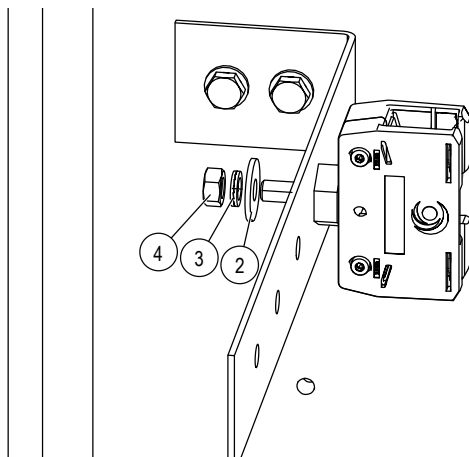
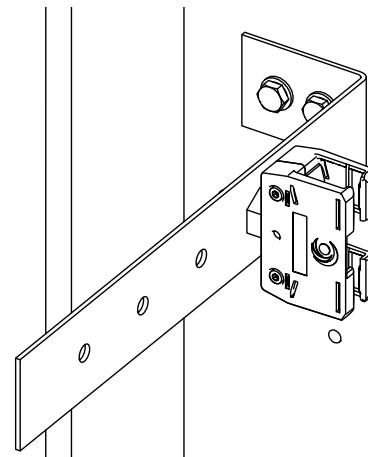

Fig. 12: Screw hanger clamp on
Fig. 13: Hanger clamp is mounted
- Insert the hanger clamp (Pos. 1) into the corresponding hole in the customer's support structure and tighten the screw connection (Pos. 2, Pos. 3 and Pos. 4 in Fig. 12 and Fig. 13) with the specified torque (SW 13, torque wrench: **7 Nm**). Use the open-end wrench SW 22 to counter-lock the plastic nut (Pos. 5). Ensure that the screw heads of the loosely mounted cylinder screws face outward (Pos. 6), i.e. they are turned away from the customer's support structure.